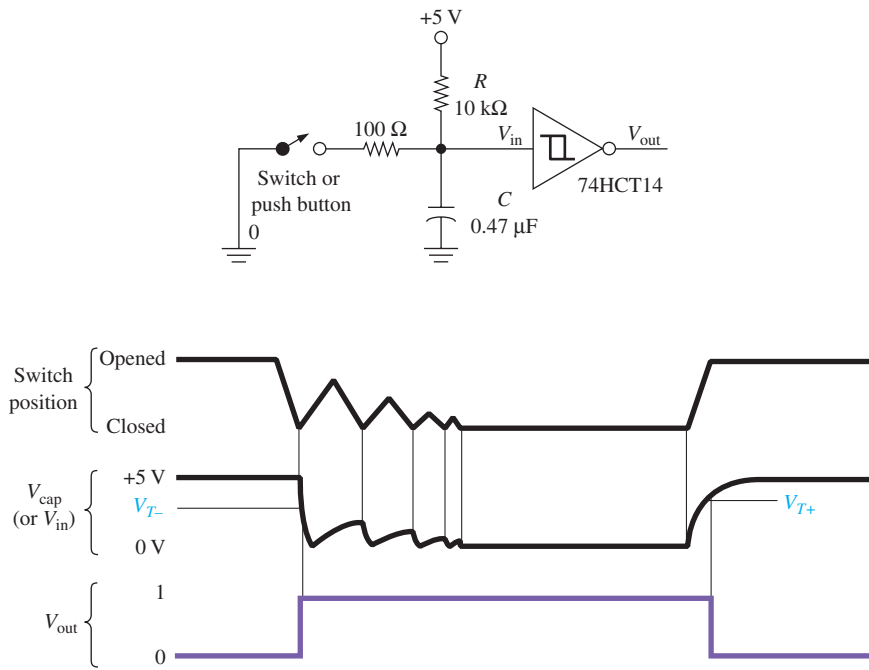

Figure 11-39 Schmitt method of debouncing a single-pole, single-throw switch.
There are several ways to eliminate the effects of switch bounce. If you need to debounce a single-pole, single-throw switch or push button, the Schmitt trigger scheme shown in Figure 11-39 can be used. With the switch open, the capacitor will be charged to +5 V (1), keeping $V_{out} = 0$. When the switch is closed, the capacitor will discharge rapidly to zero via the 100- Ω current-limiting resistor, making V_{out} equal to 1. Then, as the switch bounces, the capacitor will repeatedly try to charge slowly back up to a HIGH and then discharge rapidly to zero. The RC charging time constant ($10\text{ k}\Omega \times 0.47\text{ }\mu\text{F}$) is long enough that the capacitor will not get the chance to charge up high enough (above V_{T+}) before the switch bounces back to the closed position. This keeps V_{out} equal to 1.
When the switch is reopened, the capacitor is allowed to charge all the way up to +5 V. When it crosses V_{T+} , V_{out} will switch to 0, as shown in Figure 11-39. The result is that by closing the switch or push button once you will get only a single pulse at the output even though the switch is bouncing.